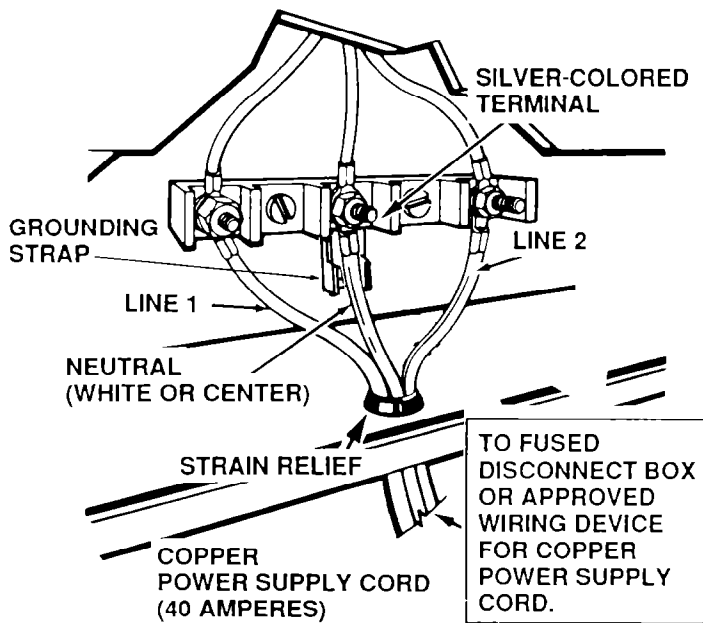

FIGURE 2
- C. Connect the neutral wire of the copper power supply cord to the center silver-colored terminal of the terminal block and connect the other wires to the outer terminals. See Figure 2.